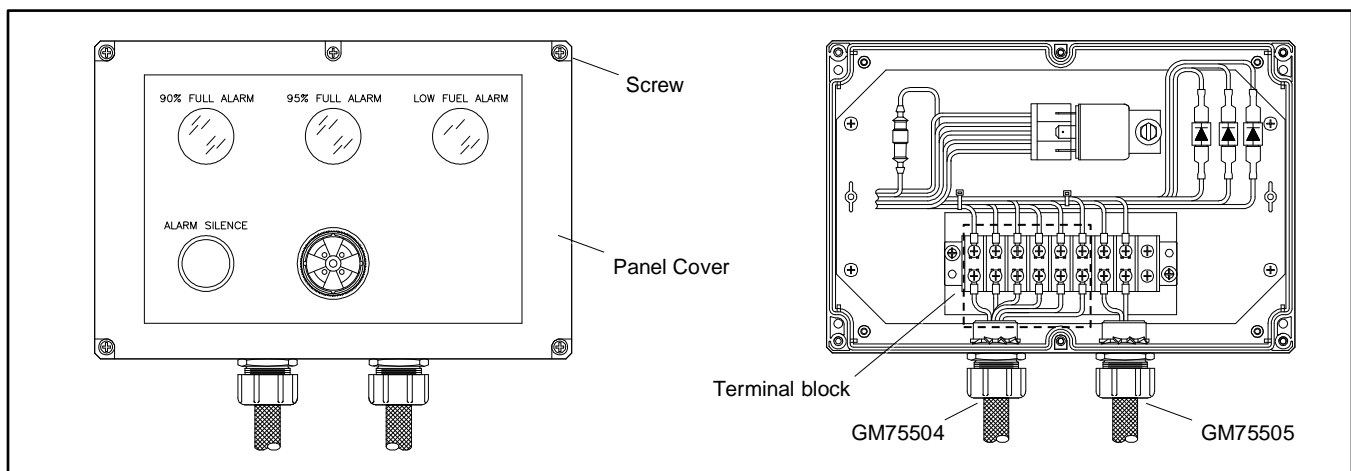

Figure 52 Panel Cover Removed
- b. Remove the five screws. See Figure 52.